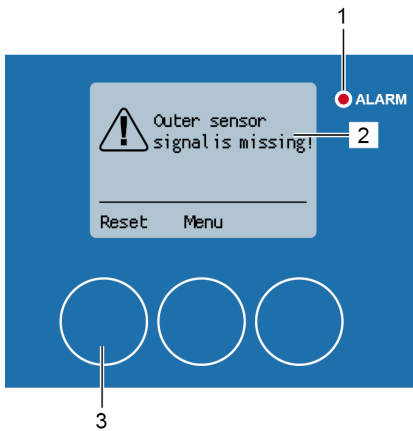

Fig. 195: Outer sensor signal alarm
The alarm message “Outer sensor signal is missing!” (Fig. 195/2) is displayed during the cleaning process if there is a problem with the proximity sensor on the circumference of the rotor. The red alarm LED (Fig. 195/1) lights up.
2. Reset the alarm message with [Reset] (Fig. 195/3).
If the alarm message is reset without first correcting the error, the alarm message appears again. The menu “1 Main menu” can be called up via [Menu] (Fig. 195/4), e.g. to check the signal status of the proximity sensor on the circumference of the rotor ↗ chapter 6.5 Status indicators on page 89.